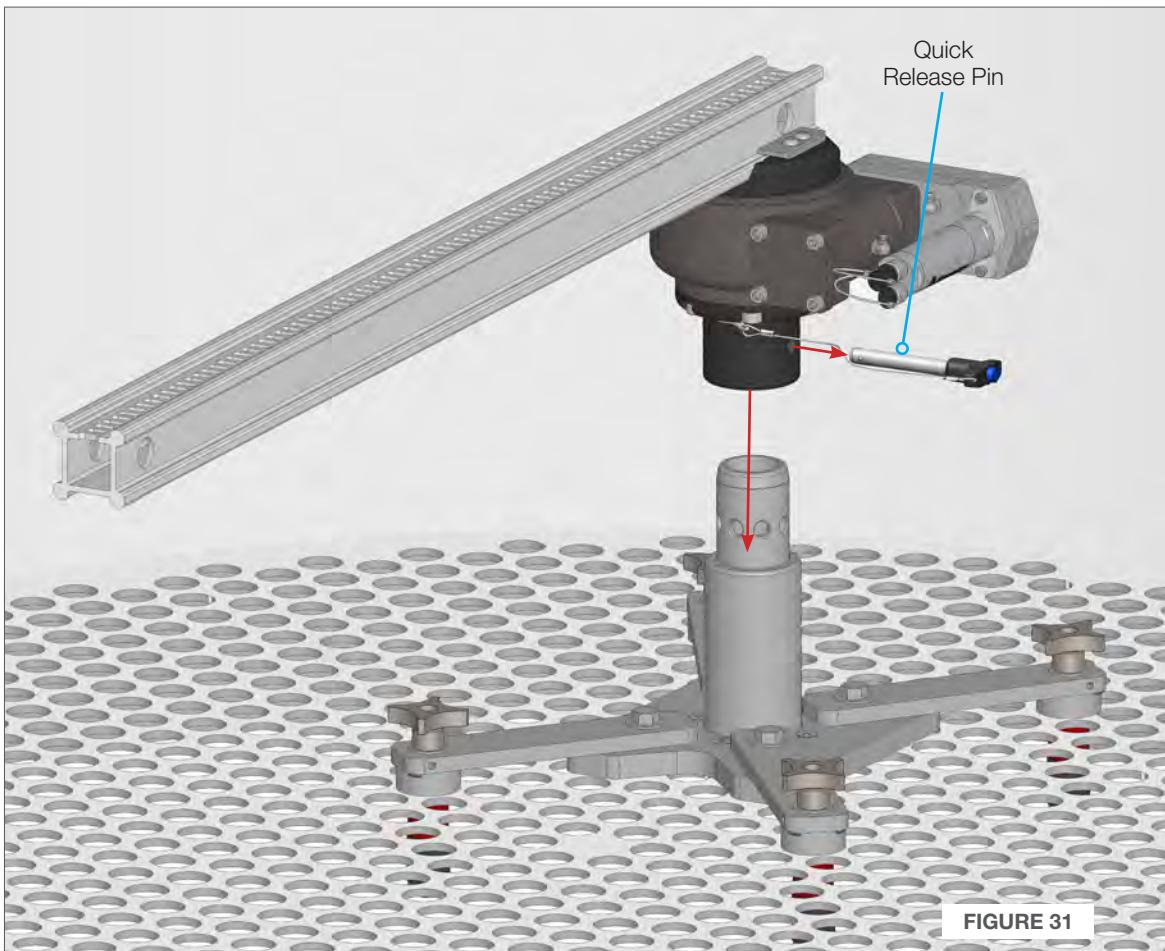

FIGURE 31
10. Remove the Quick Release Pin from the Rotary Drive and slide the Rotary Coupling over the Spider Plate Mounting Shaft. **(Figure 31)**